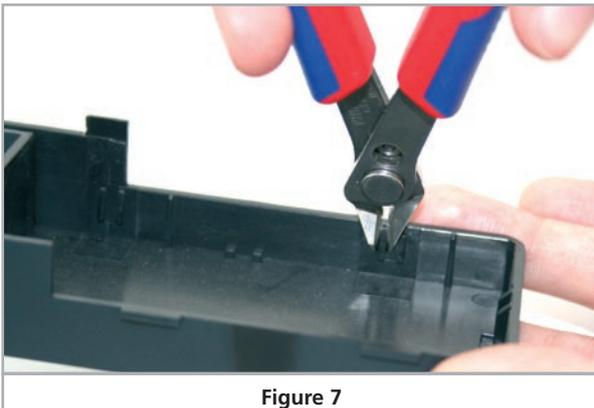

Figure 7
- b) Remove the retaining clips in the extension module by snipping them with side cutters (see Fig. 7).